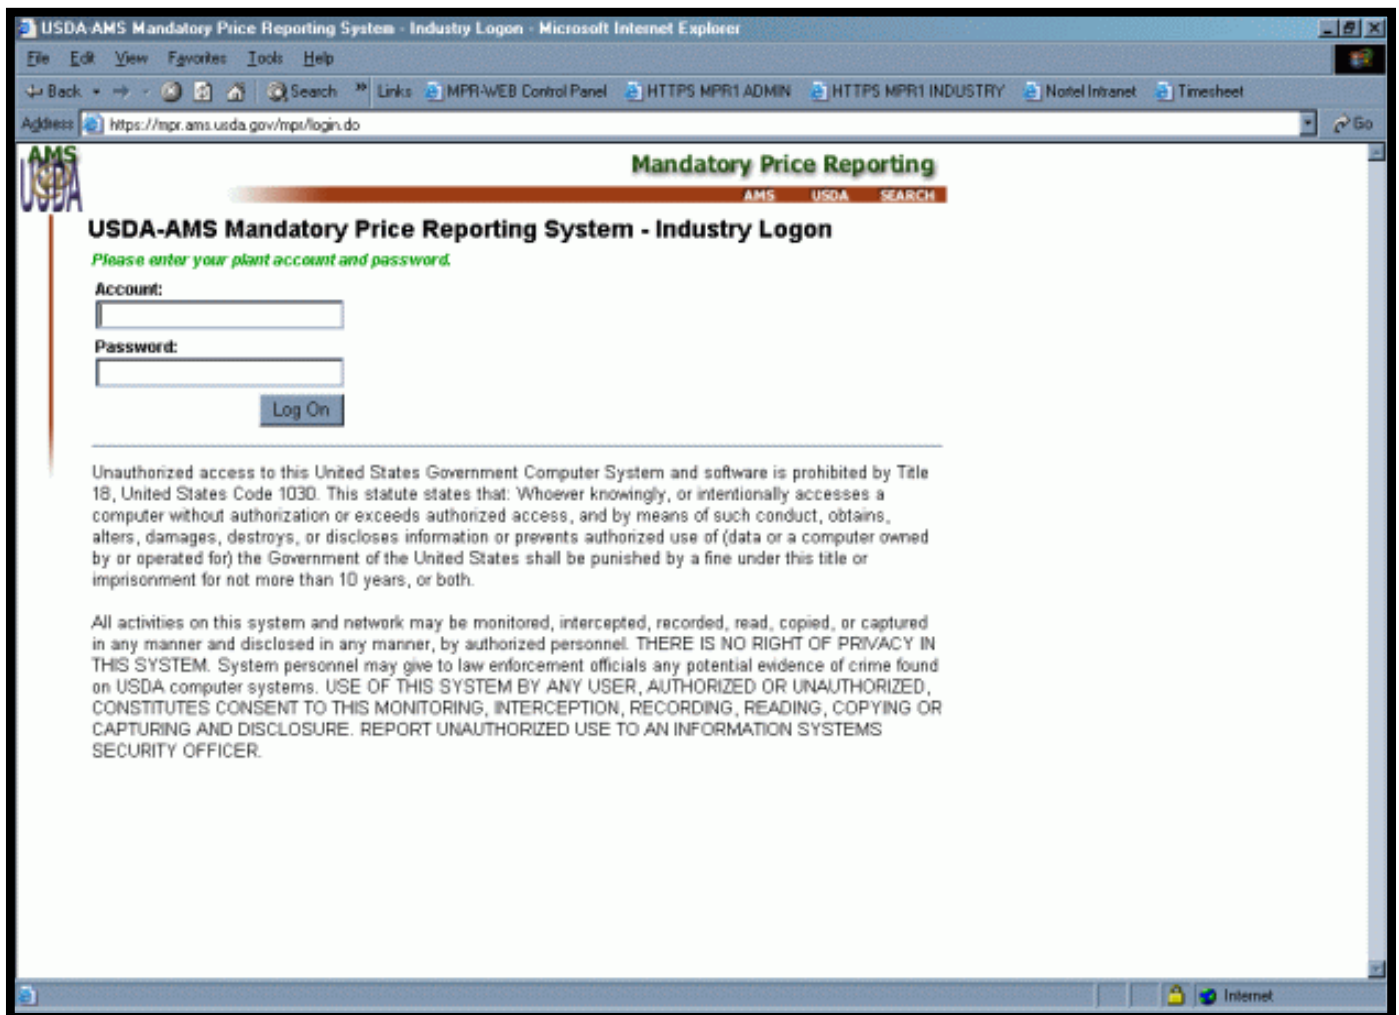

Figure 3.2-1: Industry Logon
2. Type in the web address to access the MPR system in the Address bar (<https://mpr.ams.usda.gov>). You will be directed to a screen like the one below in Figure 3.2-1.